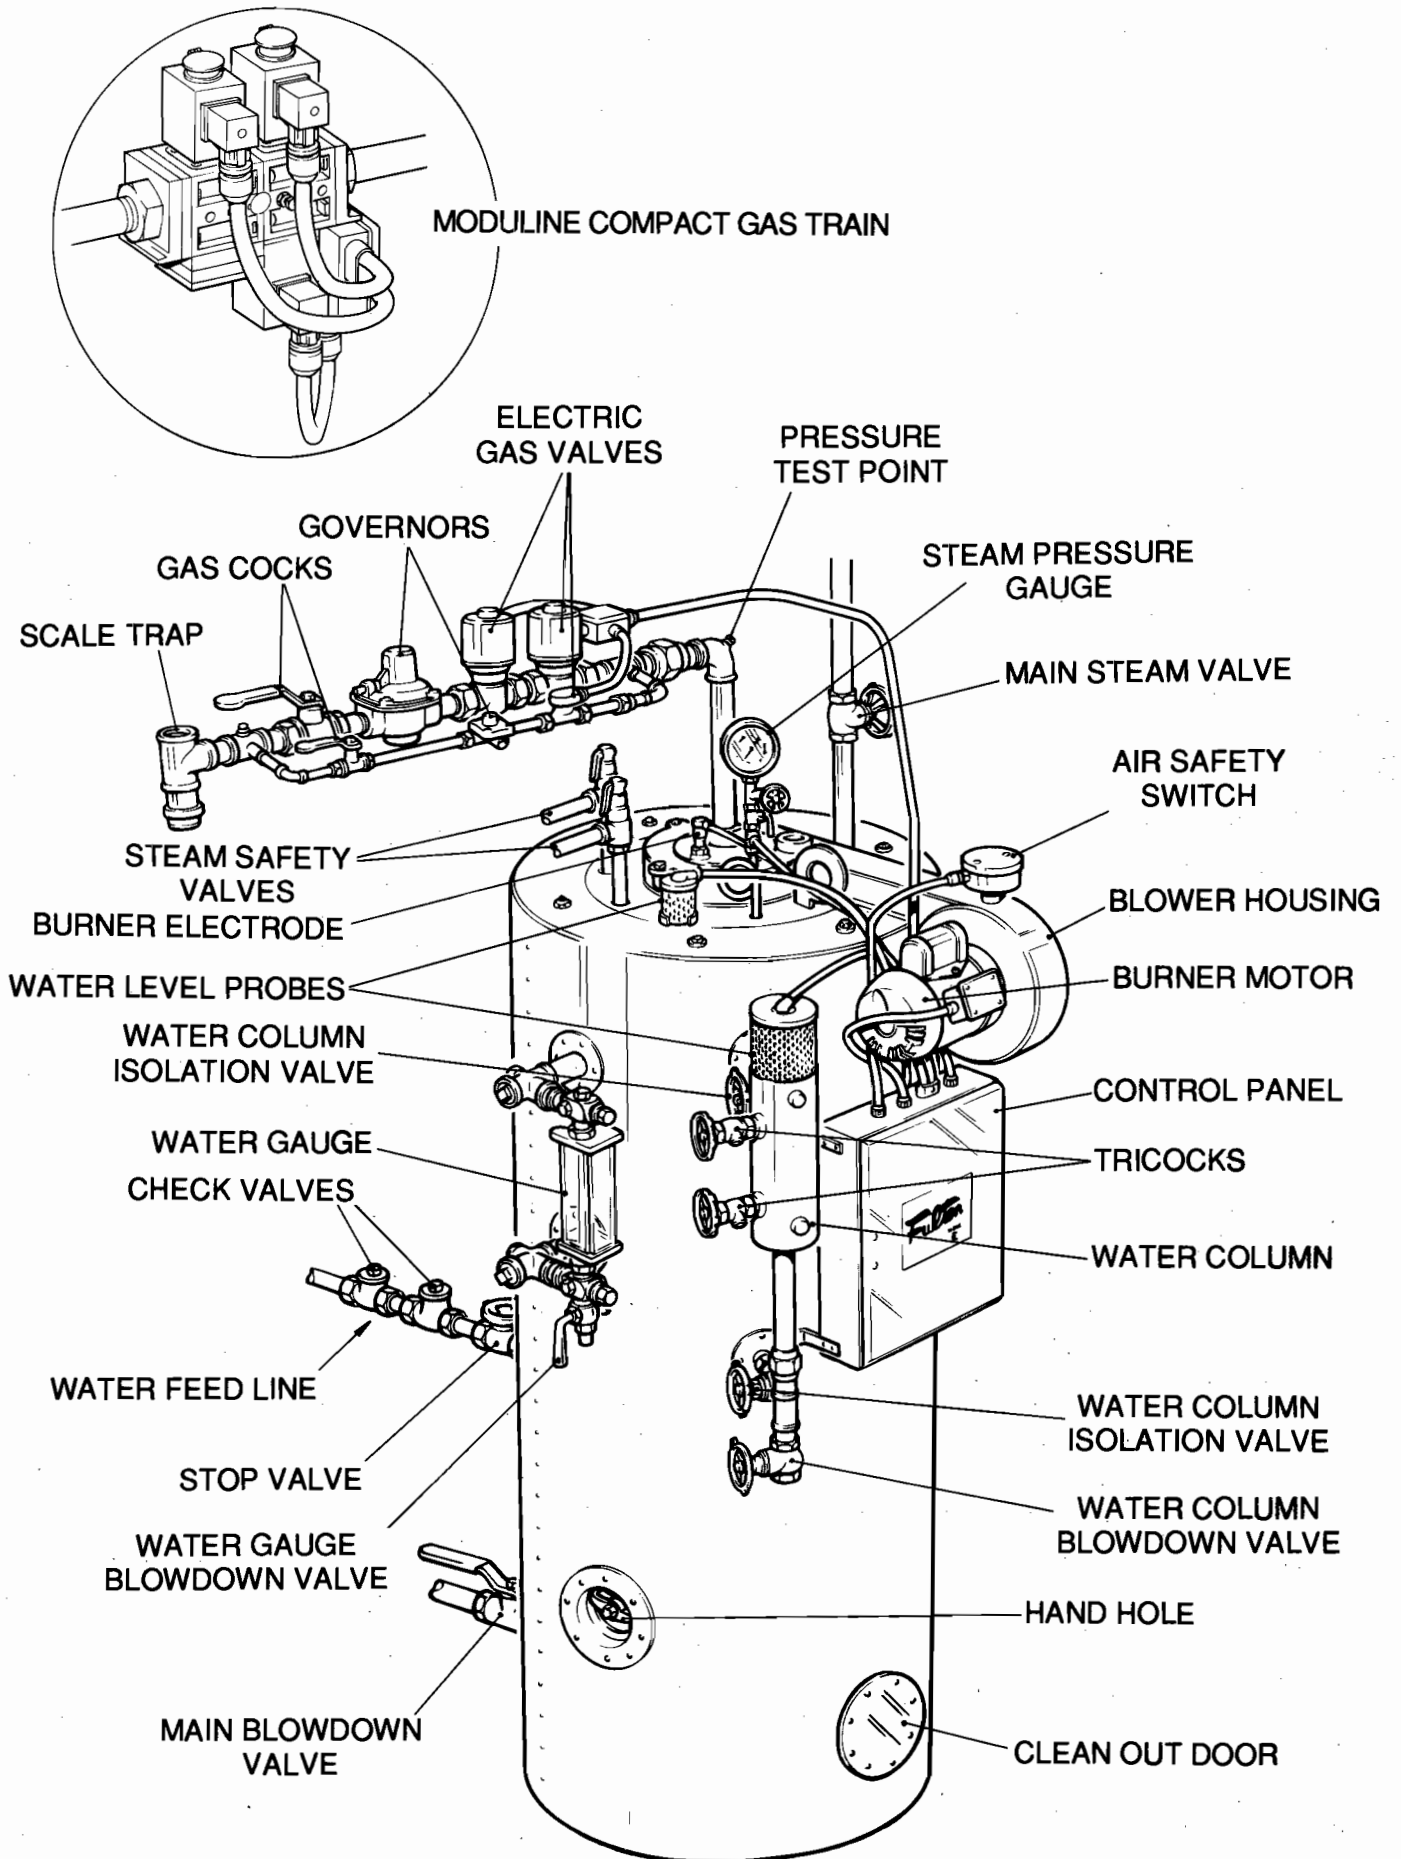

FIG. 6 COMMISSIONING THE BOILER
2.13 Commissioning the Boiler (Fig. 6)